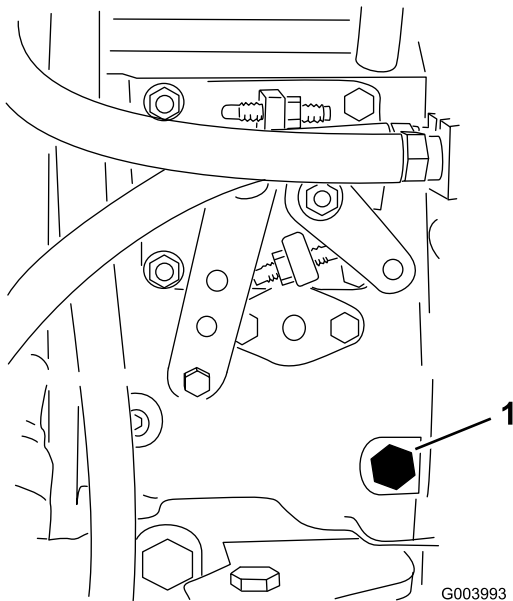

Figure 18
3. Open the air bleed screw on the fuel injection pump (Figure 18) with a 12 mm wrench.